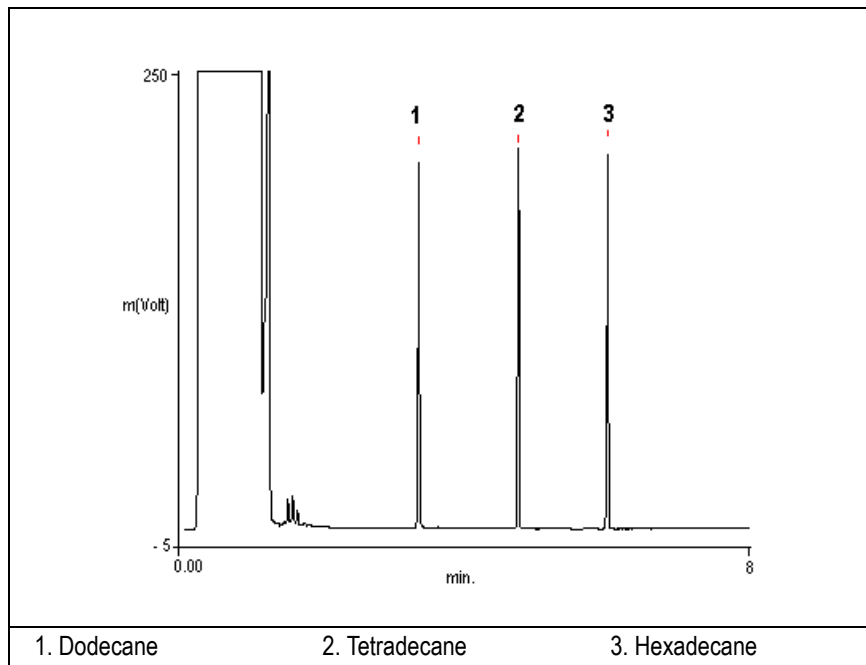

Figure 12-1. FID-Splitless Injection
23. Inject the test mixture and press **START** on the GC to begin the checkout run. The resulting chromatogram should look like the one shown in Figure 12-1.